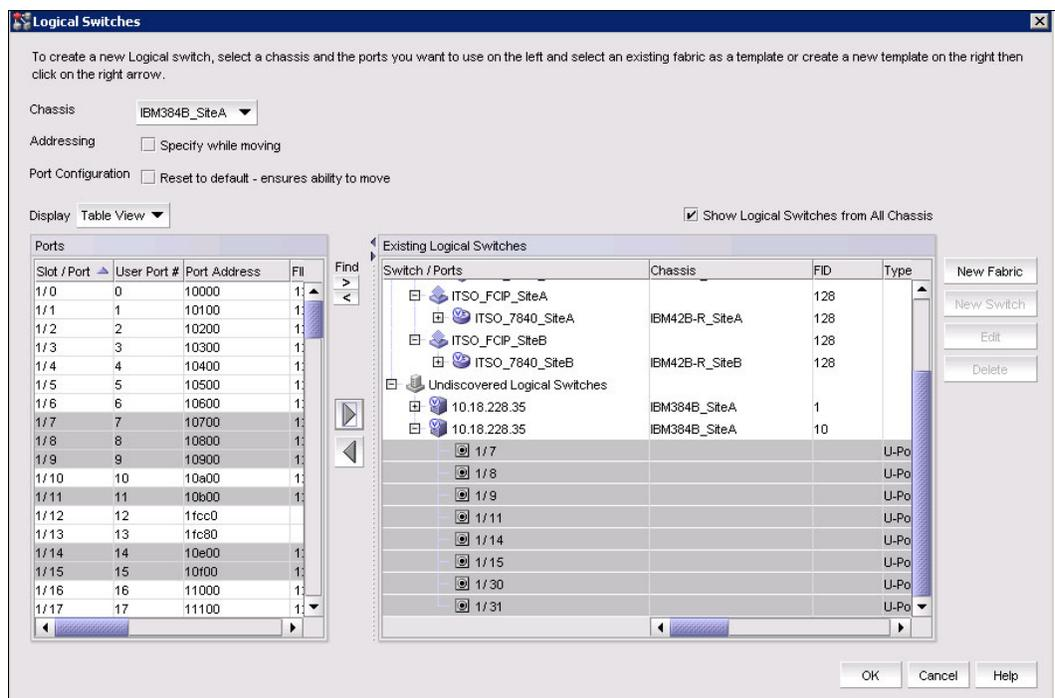

Figure 6-30 Assign ports to logical switch
- Assign physical ports to this logical switch (Figure 6-30). Here we assign the following ports to it: Four ports for SVC connection, four ports for backend storage connection, and one port (Port 1/24) for ISL connection to ITSO_7840_SiteA.